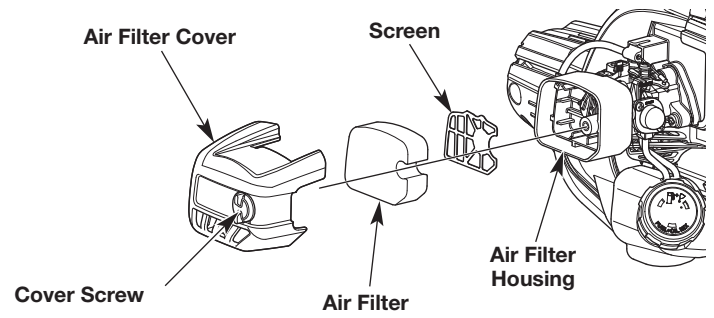

Fig. 9
1. Open the air filter cover by unscrewing the cover screw (Fig. 9).
2. Remove the air filter and the screen that sits behind it (Fig. 9).
6. Replace the air filter and the screen that sits behind it (Fig. 9).